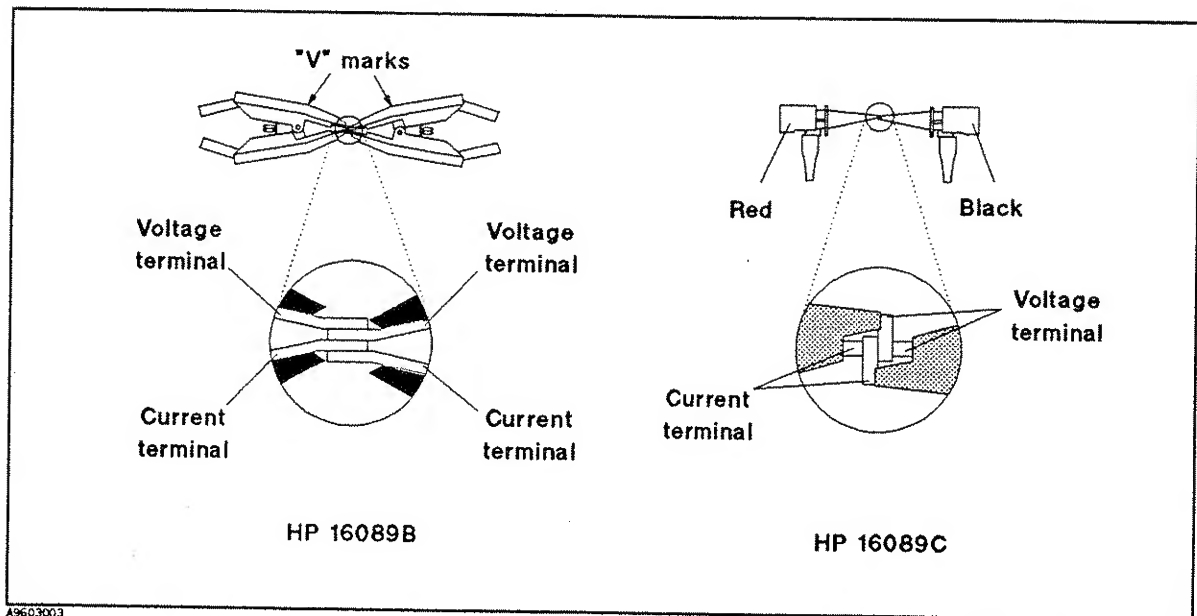
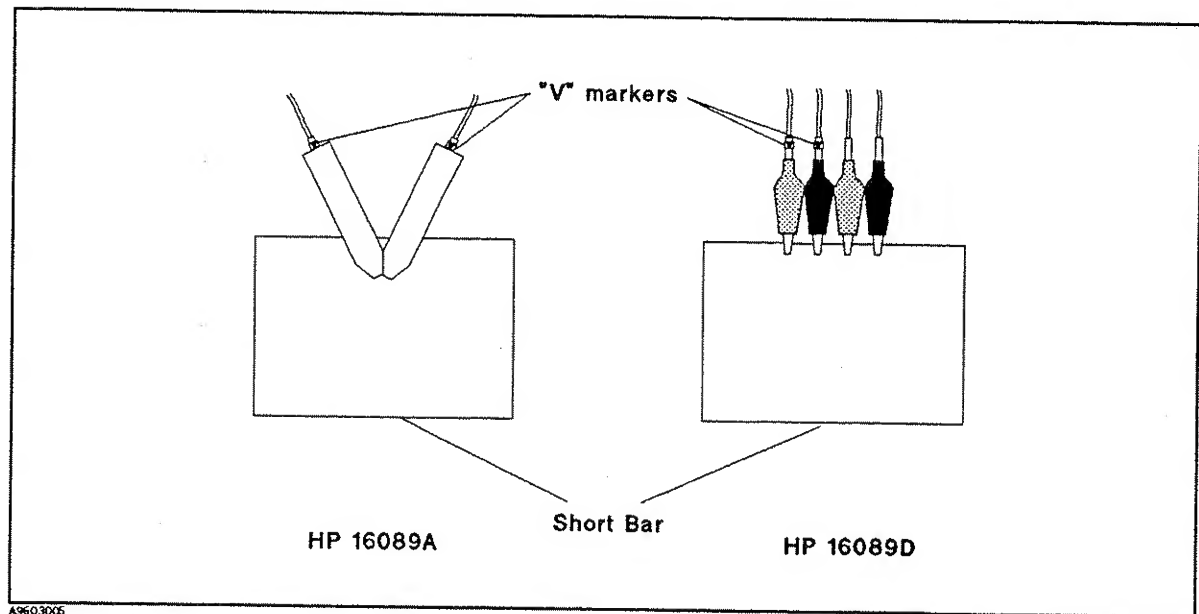

Figure 3-3. Making a Shorting Connection for the HP 16089B and HP 16089C
Figure 3-4. Making a Shorting Connection for the HP 16089A and HP 16089D
3. Perform OPEN and SHORT correction as described in the measurement instrument's operation manual. Figure 3-3 and Figure 3-4 show how to make shorts suitable for the SHORT correction procedure using each type of test clip.